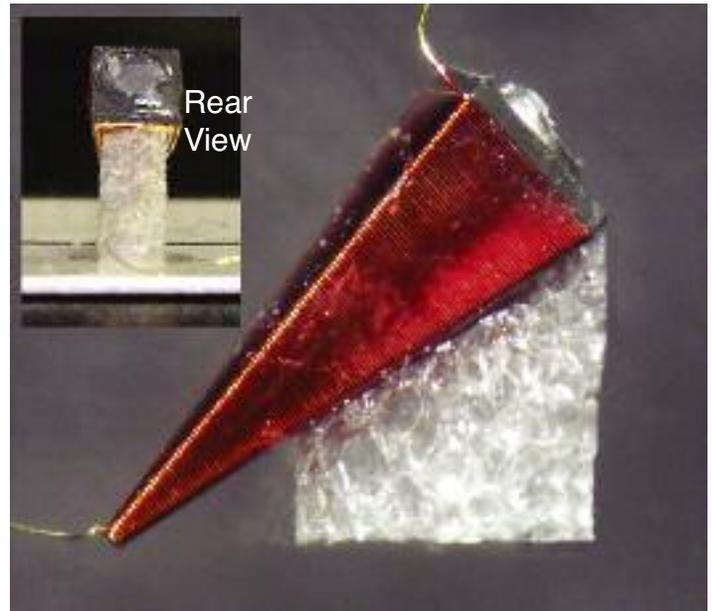

Figure 15: The coil / foam assembly
- Secure the foam piece to the underside of the coil with a small amount of low density cyanoacrylate ester (Crazy Glue) as shown in **Figure 15**. Make sure that the lead protruding from the small end of the coil is located on the bottom of the coil as shown so that its length will be minimized.